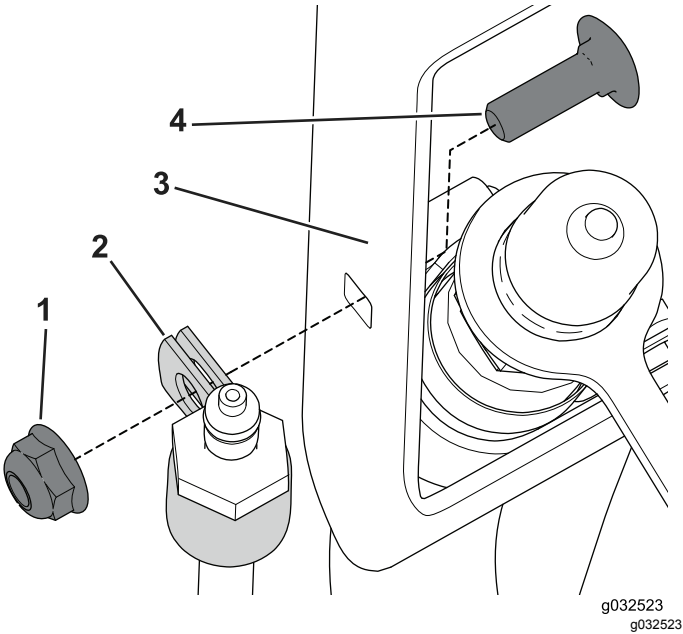

Figure 36
1. Arrange the R-clamp around hose connector (Figure 36).
2. Use the carriage bolt (1/4 x 3/4 inch) and nut to secure R-clamp to the hose bracket (Figure 36).